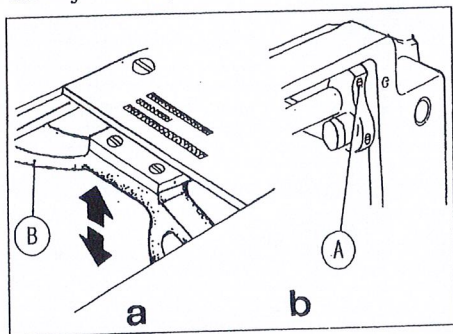

Fig. 22
## 17. ADJUST THE HEIGHT OF FEED DOG ( Fig.22,23 )
- 2) Loosen Screw ( A ) of feed lifting rock shaft crank right ( See Fig.22,b )
- 3) Move Feed Bar ( B ) in the direction shown by the arrow in Fig.22 ( a ) to adjust the height of the feed dog. The standard height of feed dog is that the top of feed dog is 1mm above Throat Plate Surface ( B ).